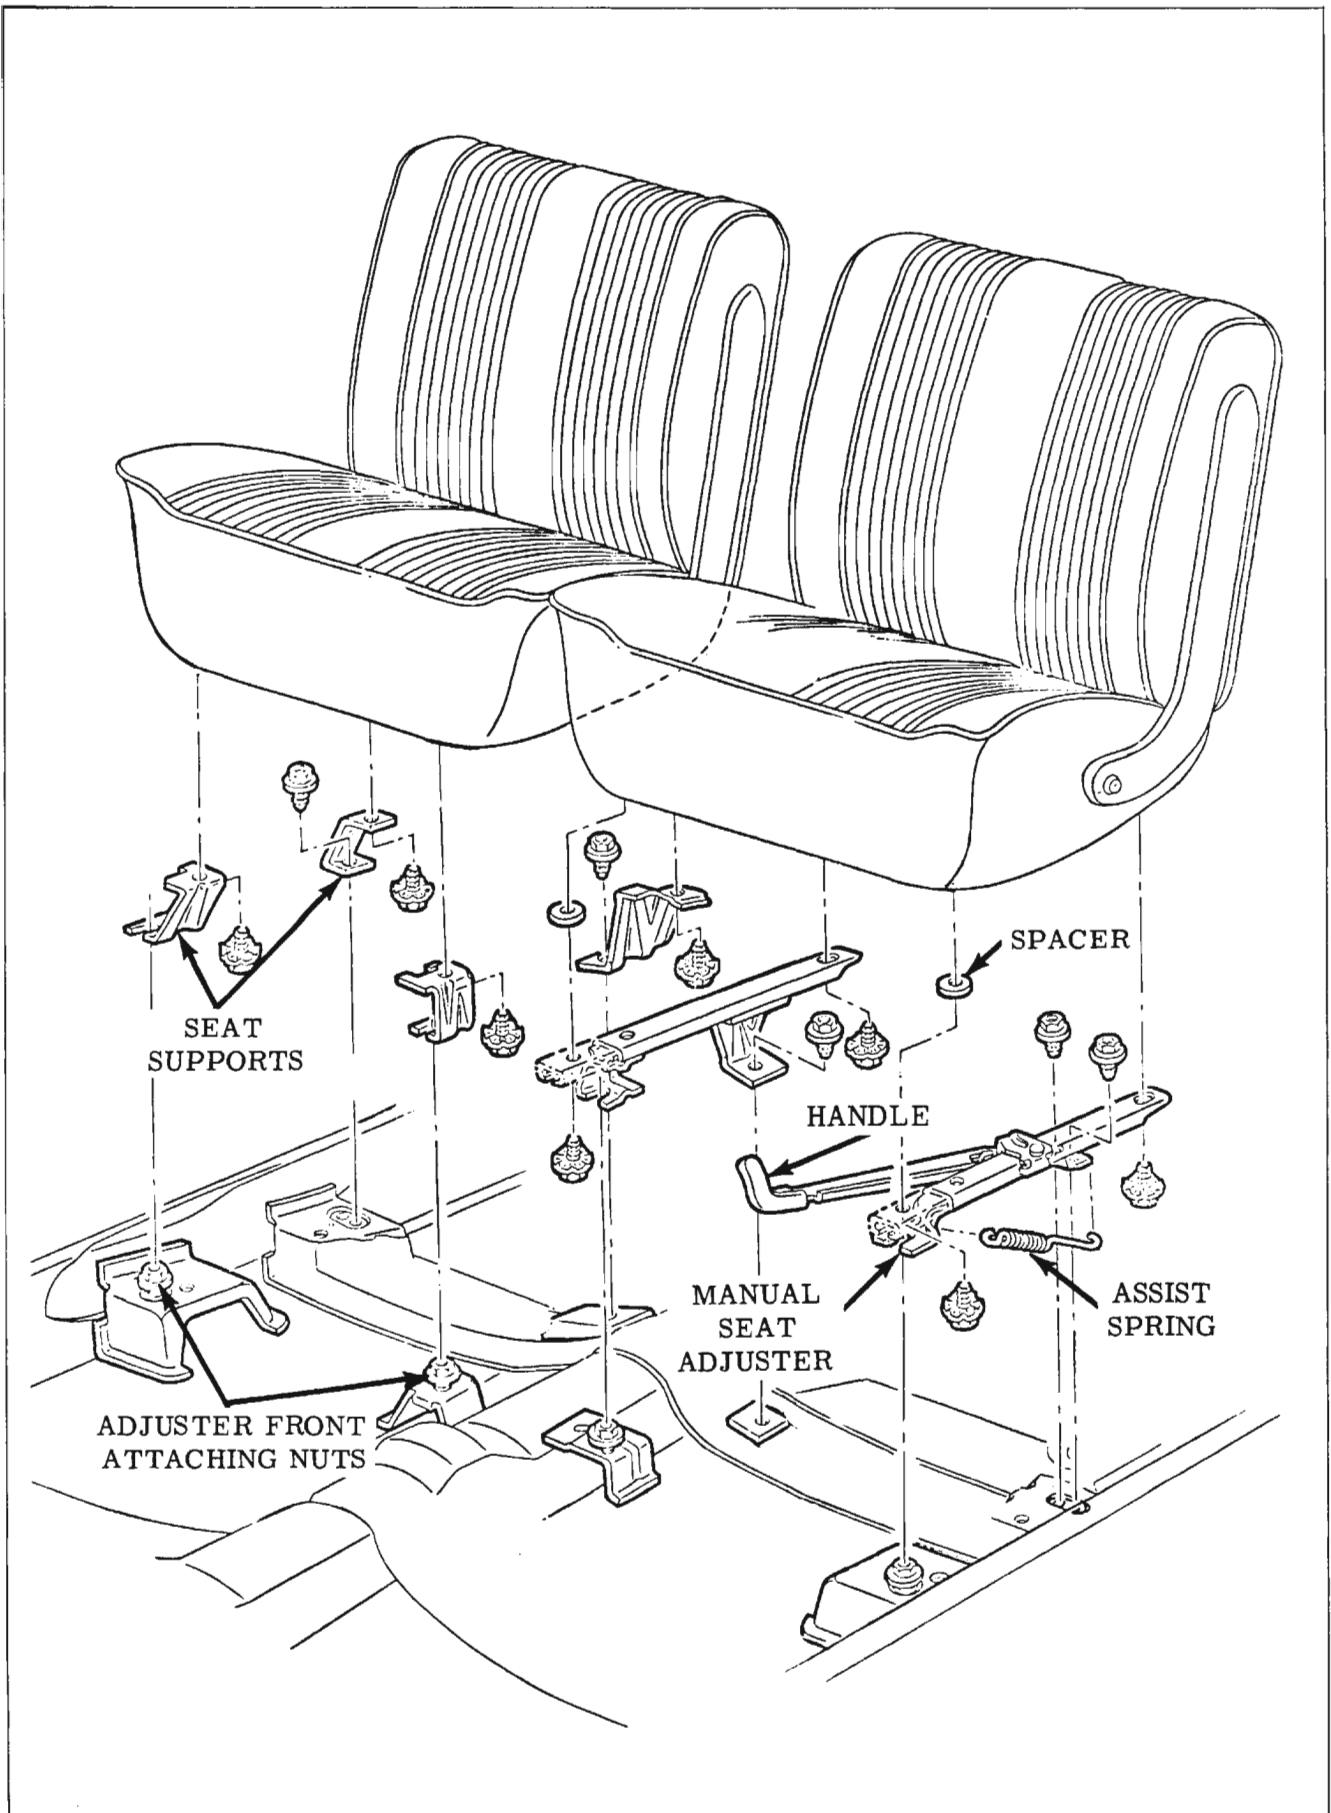

Fig. 16-315 Bucket Seat Assemblies
3. Remove bolt securing affected support to seat bottom frame (Fig. 16-315) and remove support from seat assembly.